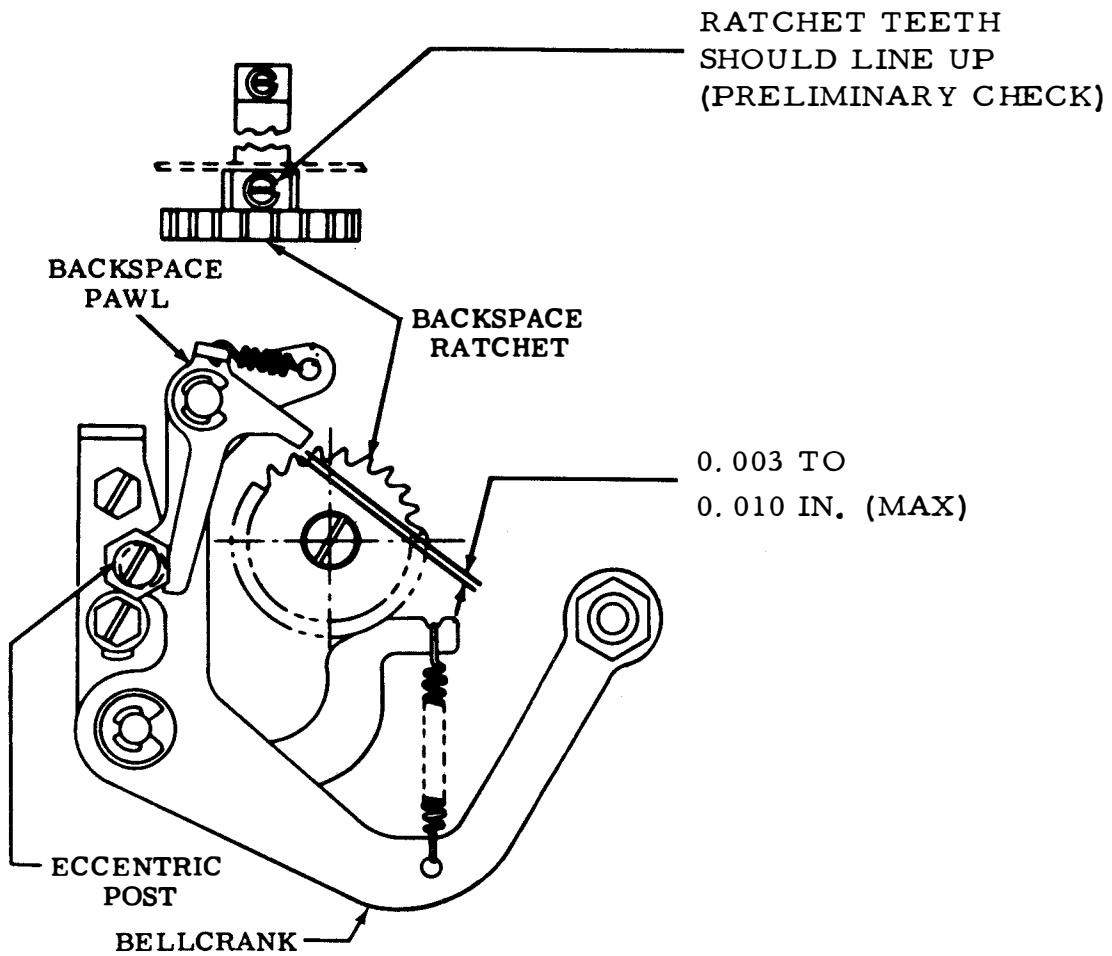

Figure 6-216. Backspace Ratchet - Top View
(1) Backspace Ratchet. Adjust as follows:
- (a) Refer to figure 6-216.
(2) Backspace Pawl Clearance. Adjust as follows:
- (a) Refer to figures 6-216 and 6-217.